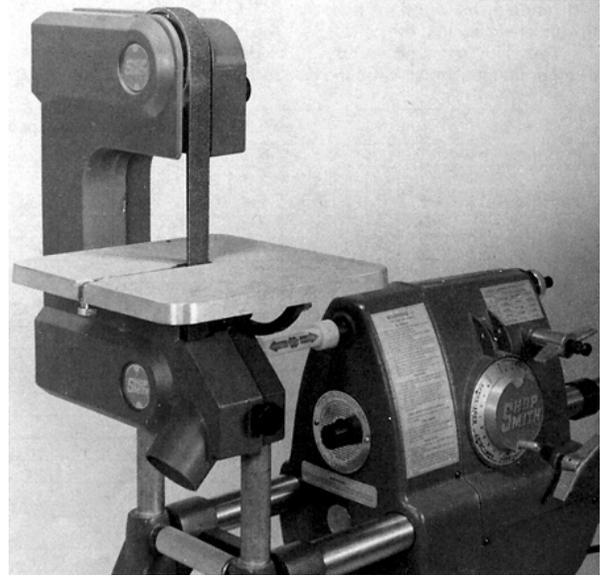

Figure 20-1. This Strip Sander mounts on the Shopsmith Mark V.
- The strip sander mounts on the Shopsmith Mark V (Figure 20-1).